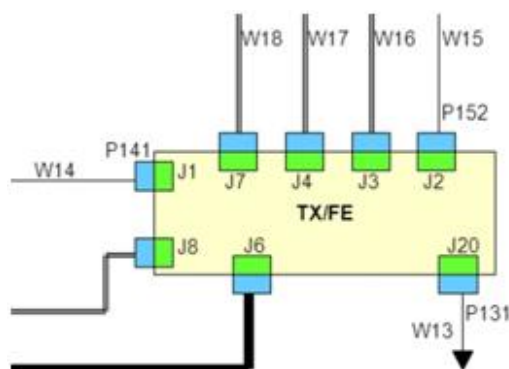

Figure 4 TX-FE Interconnection
- 4 Connect the cables to the relevant front connectors of the units as per recorded position or as shown in Figure 4.